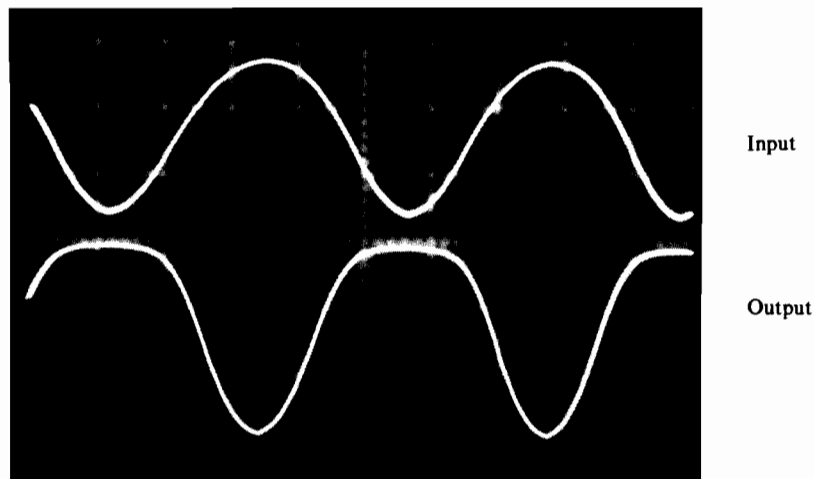

FIGURE 25–2
7. Now reduce the input signal level to zero, and replace the potentiometer with a 220- Ω resistor. Slowly increase the input signal level so that one peak clips off much earlier than the other, as shown in Figure 25–2.